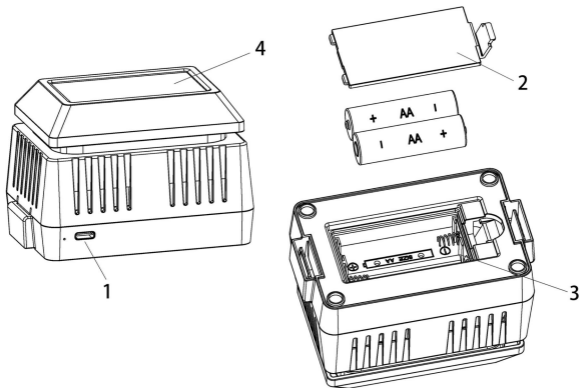

Figure 2
1. Remove the battery door on the base of the air quality sensor as shown in **Figure 2**.